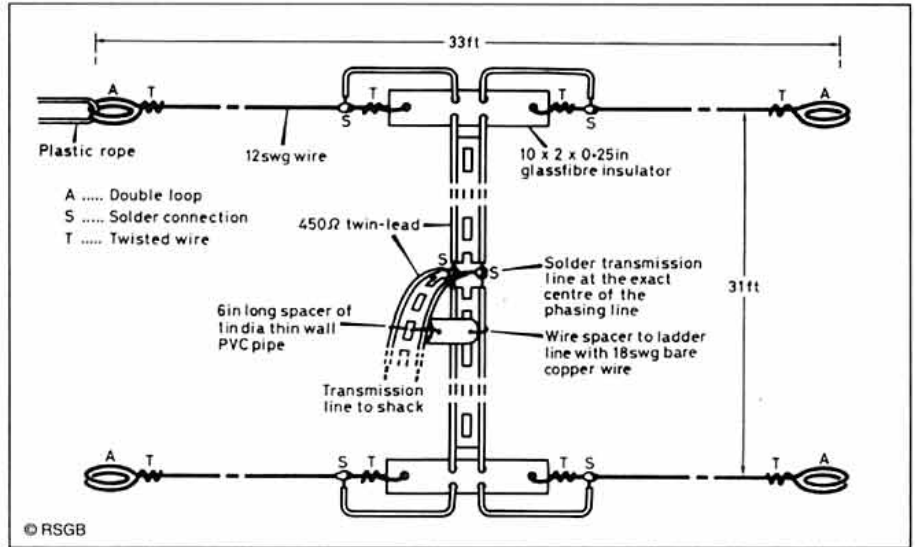

Fig 1: Construction details of the author's Lazy-H antenna.
**T**HIS ANTENNA provides more bands at a lower cost than a tri-bander. Essentially the Lazy-H (Fig 1) consists of two horizontal doublets or dipoles stacked vertically and fed in phase - an idea that dates back to the thirties. A plot of free-space gain versus spacing of two half-wave dipoles is shown in Fig 2.
simply used 450Ω ladder-line twin-lead [2] for both the transmission line and phasing line. This stuff is easy to work with and sufficiently low-loss for line lengths up to 75 feet or so, at least when dry. Construction details are shown in Fig 1.